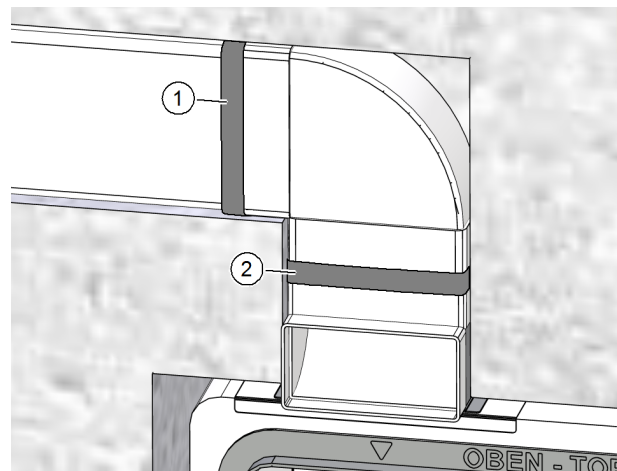

Fig. 17: Fixing a flat ductwork connection with sealing tape
- ▶ Join individual elements of the flat ductwork to create partial sections and seal every join with a layer of sealing tape 30 mm wide (item 1 in Fig. 17).
- ▶ Insert the first section of the flat ductwork into the 90° bracket on the wall box and seal the join with sealing tape (item 2 in Fig. 17).